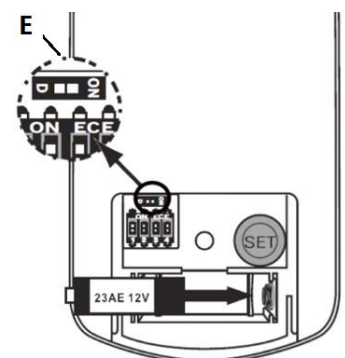

Fig. 16
- Fig.16**
This switch marked **D/ON** controls the dimming function of the lights. If using non-dimmable bulbs, use a ballpoint pen or small screwdriver to set the switch to "D" to disable the dimming function. If using dimmable halogen bulbs, set the switch to "ON" to enable the dimming function. **Fig. 16**